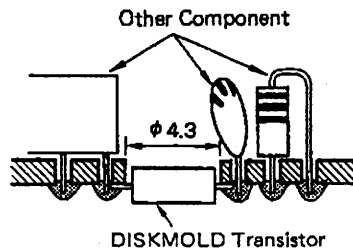

Fig. 16 Mounting by Embedded in Printed Circuit Board
- (1) In this mounting method, a diskmold transistor is mounted embedded in a hole, as shown in Fig. 16. Since the diameter of the transistor is 4.0mm maximum, the diameter of the hole should be approx. 4.3mm. It is also allowed to arrange the transistor upside down.